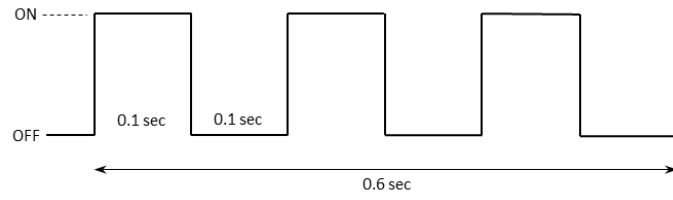

Figure 1-8: The LED pattern with RED before entering DEEP SLEEP.
2. **RED** is toggled ON and OFF every 0.1 sec for 0.6 sec as shown in Figure 1-8.